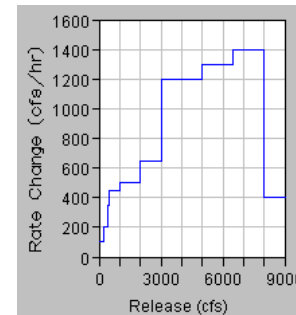

Figure 11.41 Step Interpolation Method
- **Step Interpolation** (Figure 11.41) means that the table describes a step function, where the values in one row hold constant until changed by the next row.